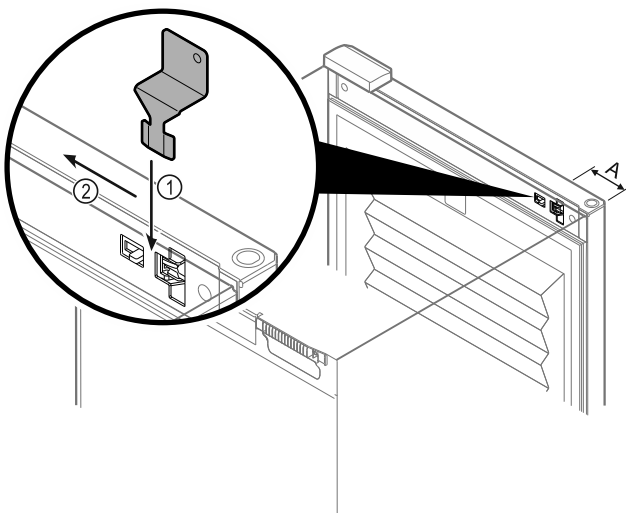

Fig. 188
- ▶ Position the emergency unlocking key in the location shown Fig. 188 (A) \approx 100 mm.
- ▶ Insert the emergency unlocking key from above between the door and the appliance body as far as it will go Fig. 188 (1).
- ▶ Drag the emergency unlocking key toward the hinge side Fig. 188 (2).